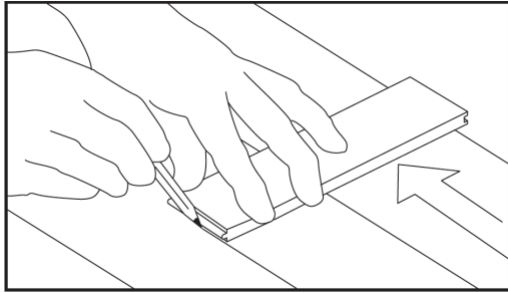

Figure 13
- If the wall is not straight, scribe the first board (**Figure 13**) as necessary to maintain alignment with the chalk line. Install a sacrificial board (with a straight edge) using the appropriate fasteners for the subfloor. If a board is used for the starter row, make certain the groove faces the wall.
- Align the first row with the wall using wedges to maintain a 1/2" (13 mm) expansion in place and to stabilize the product. If the wall is not straight, scribe the first board (**Figure 13**) as necessary to maintain alignment with the chalk line.